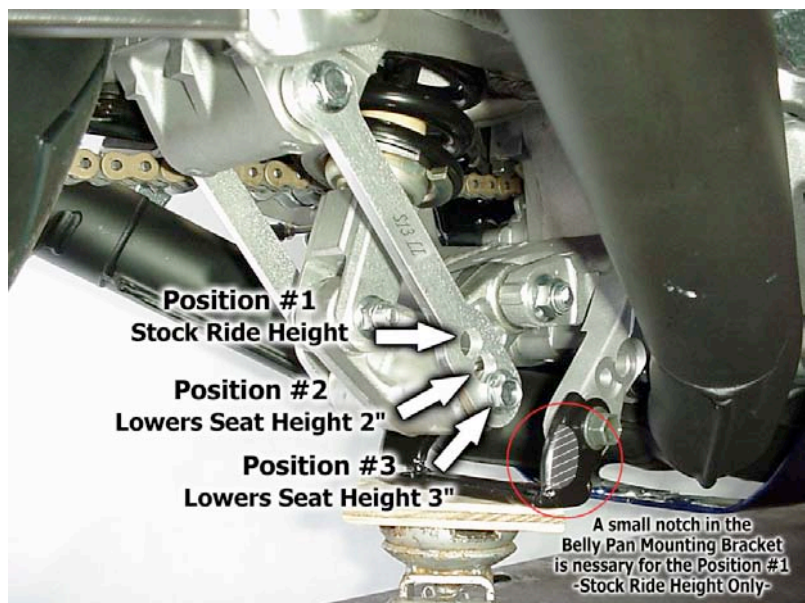

Fig 2
2. Belly Pan Mounting Bracket must be modified to utilize Position #1 **ONLY**. (Fig 2)